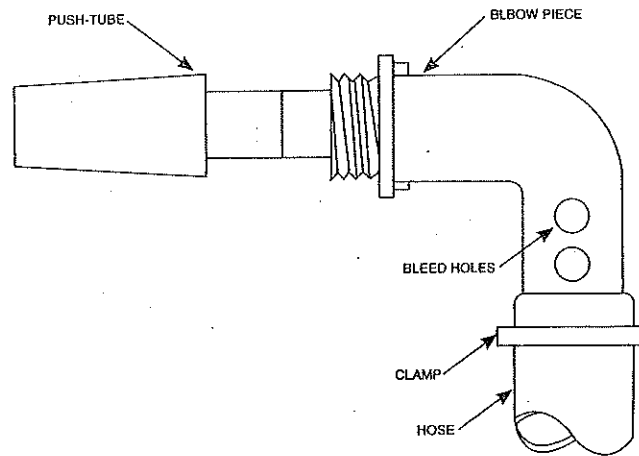

FIGURE 6
2. Refer to Figure 6.Push the small end of the Push-in Tube (12) into the threaded end of the Elbow Piece (6) until it is secure. this is your inlet adater.
3. Refer to Figure 1.Uncoil the hose (3) and remove all twist.Using clamps(15),clamp one end of the hose to the back side of the fountainhead (1) and the other end to the inlet adapter from step 2.Cover one set of bleed holes with the hose (Fig.6). To tighten clamp,grasp "tabs" between thumb and forefinger and squeeze.Tighten securely with a pair of pliers.To open the clamp,grip one "tab" of the clamp with pliers and twist loose.
4. Using the tie wrap(14),LOOSELY attach the anchor (4) to the hose (3),the anchor (4) should be attached to the hose(3) at a point as deep as the water plus approximately two feet.You will have to estimate what the water depth is where you want the fountain and add two feet.**CAUTION:DO NOT CONSTRICT THE HOSE BY TIGHTENING THE TIE WRAP (14) TOO TIGHT.**
6. Place the fountain assembly into the pool.Position the fountain in the desired location being careful not to crimp the hose (3).
Height adjustment is achieved by covering more or less of the bleed holes(Fig.6) on your elbow piece (6) with the hose (3). The more holes covered,the hihger the fountain and vice versa.
3. Refer to Figure 1. Uncoil the hose (3) and remove all twist. Using clamps (15), clamp one end of the hose to the back side of the fountainhead (1) and the other end to the inlet adapter from step 2. Cover one set of bleed holes with the hose (Fig. 6). To tighten clamp, grasp "tabs" between thumb and forefinger and squeeze. Tighten securely with a pair of pliers. To open the clamp, grip one "tab" of the clamp with pliers and twist loose.
4. Using the tie wrap (14), LOOSELY attach the anchor (4) to the hose (3). The anchor (4) should be attached to the hose (3) at a point as deep as the water plus approximately two feet. You will have to estimate what the water depth is where you want the fountain and add two feet. **CAUTION: DO NOT CONSTRICT THE HOSE BY TIGHTENING THE TIE WRAP (14) TOO TIGHT.**
6. Place the fountain assembly into the pool. Position the fountain in the desired location being careful not to crimp the hose (3).